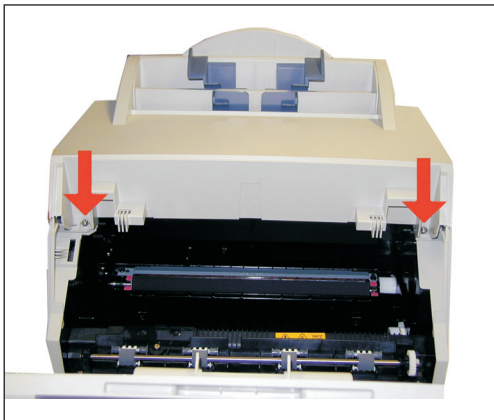

Figure 31
26) Remove the two top silver screws. The top cover will come loose. Lift up and remove the top cover. See Figure 31